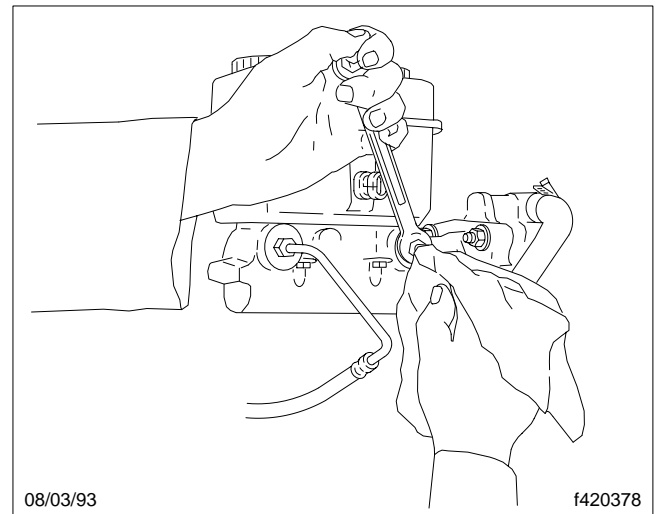

Fig. 2, Brake Lines
4. Disconnect the brake lines from the outlet ports of the master cylinder. See **Fig. 2**. Plug the brake lines to prevent contamination and leakage.